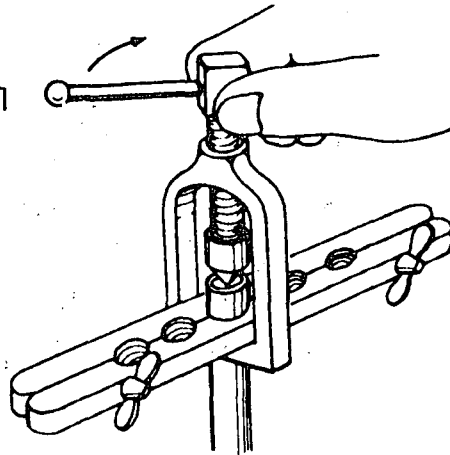

Fig. 3
- d) Flare the end of the tubing (fig. 3).